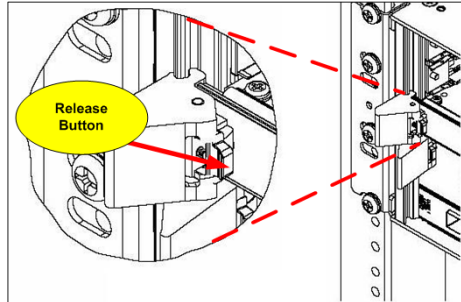

FIGURE 1-15 Detail of the card latch in Open Position (Card Below is Locked)
2. Hold the card securely with the lock-latch and label on the inside of the chassis. (Figure 1-15)
3. Press the release button on the inside of the latches and push the latches out. This puts the card in the open position. Refer to Figure 1-15.
4. Locate the slot (3) where the card is to be inserted.
5. While holding the latches/faceplate, slowly with a firm pressure push the card into the double slot until the latches begin to engage the locking rail. Refer to Figure 1-15.